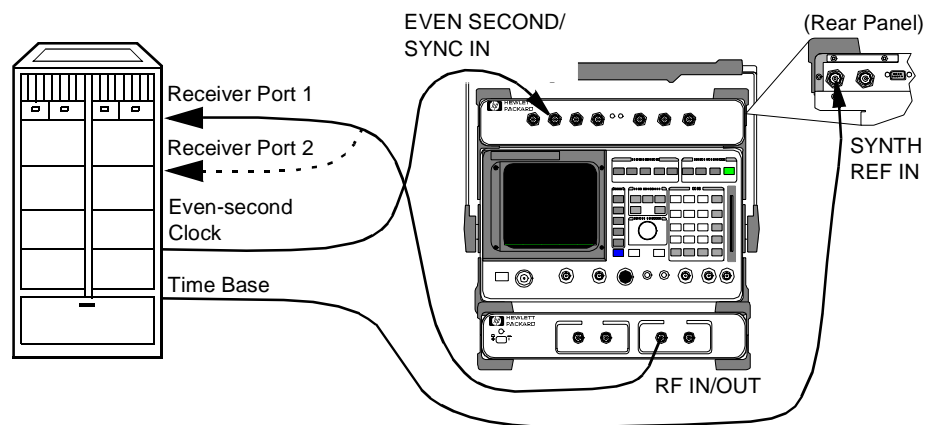

Figure 19
- 1 Connect the equipment as shown in figure 19.